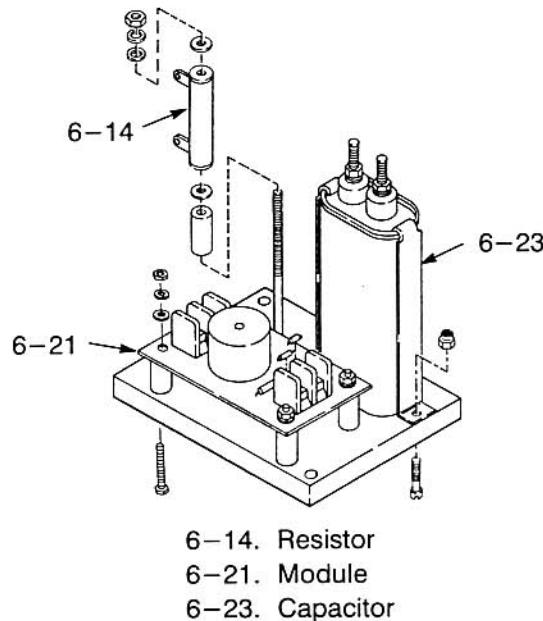

Figure 7-162 Inspect/Check Panel
- Remove and replace module (6-21, Figure 7-162). Torque mounting hardware to 14–16 in. lb.